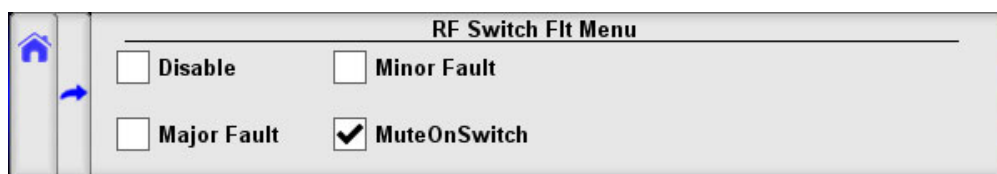

Figure 5: Fault Setup > RF Switch Flt. > MuteOnSwitch Selected
4. Tick the MuteOnSwitch checkbox. See Figure 5.